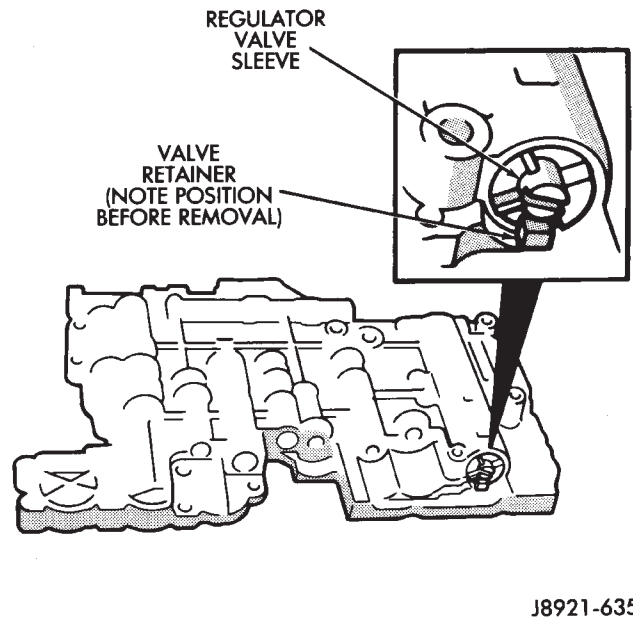

Fig. 5 Regulator Valve Retainer Position
- (a) Note position of valve retainer for assembly reference (Fig. 5). Then press valve sleeve inward with your thumb and remove retainer with magnet.